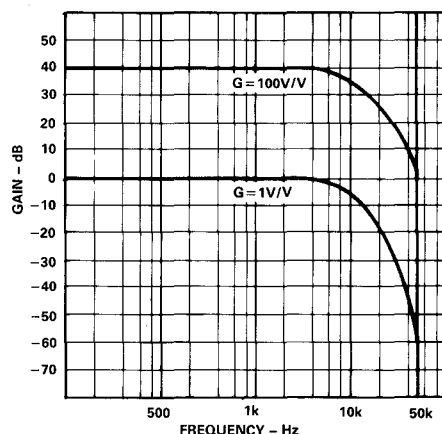
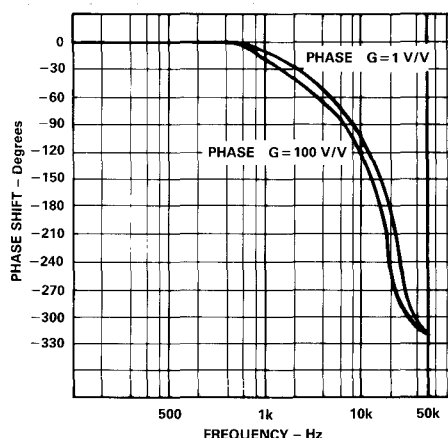

Figure 5. Gain (dB) as a Function of Frequency (Hz)
Figure 6. Phase Shift ( $\Delta^\circ$ ) as a Function of Frequency (Hz)
**Frequency Response: Gain and Phase Shift.** Figure 5 illustrates the AD203SN's gain as a function of frequency while Figure 6 illustrates the corresponding phase shift vs. frequency. The AD203SN's low phase shift and 10 kHz bandwidth performance make it ideal in power monitoring and control system applications.